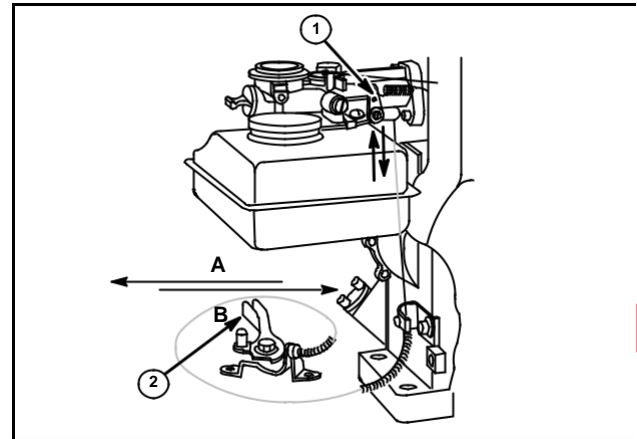

Fig. 19
Bell crank (1) and remote control lever (2) move in directions shown to increase (A) or decrease (B) speed, Fig. 19.